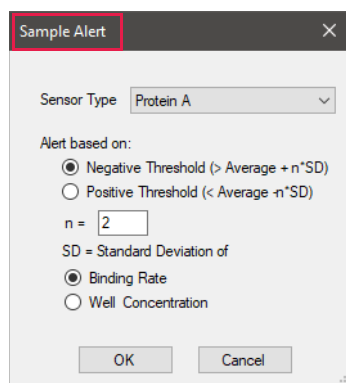

Figure 10-26: Sample Alert Settings
- **Sample Alert** - Specifies and highlights data that fit your specified criteria. Thresholds can be set for r^2 , max residual, or both. When you select this option, a Sample Alert window displays (Figure 10-26). Set either a positive or negative threshold on the standard deviation of either the binding rate or the calculated well concentration.